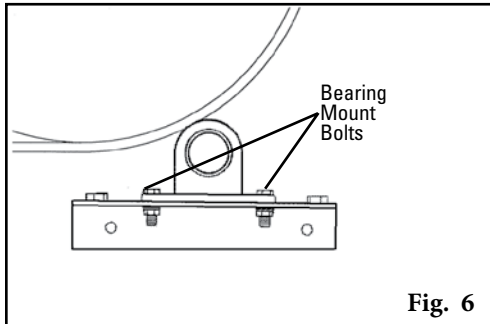

Fig. 6
8. **Install the pole.** Remove the two bearing mount bolts from one of the bearing mounts (Fig. 6). (If chute mount, remove from the side with access hole.) Slide the pole across the pulley and into the bearing mount on other side and allow tips to hang down. Install the removed bearing mount on the pole and reattach to the mounting bracket. Do not tighten; leave finger tight.
- 6. Install the pole.** Remove the two bearing mount bolts from one of the bearing mounts (Fig. 6). (If chute mount, remove from the side with access hole.) Slide the pole across the pulley and into the bearing mount on other side and allow tips to hang down. Install the removed bearing mount on the pole and reattach to the mounting bracket.